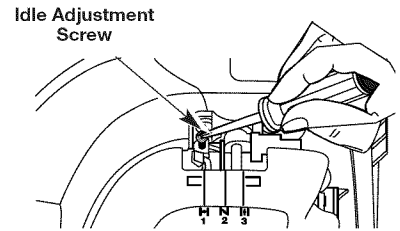

Fig. 28
The idle speed of the engine is adjustable. An idle adjustment screw is between the air filter cover and the engine starter housing (Fig. 28).
2. Release the throttle trigger and let the engine idle. If the engine stops, insert a small phillips in between the Air Filter Cover and the Engine Filter Cover (Fig. 28). Turn the idle speed screw in, clockwise, 1/8 of a turn at a time (as needed) until the engine idles smoothly.